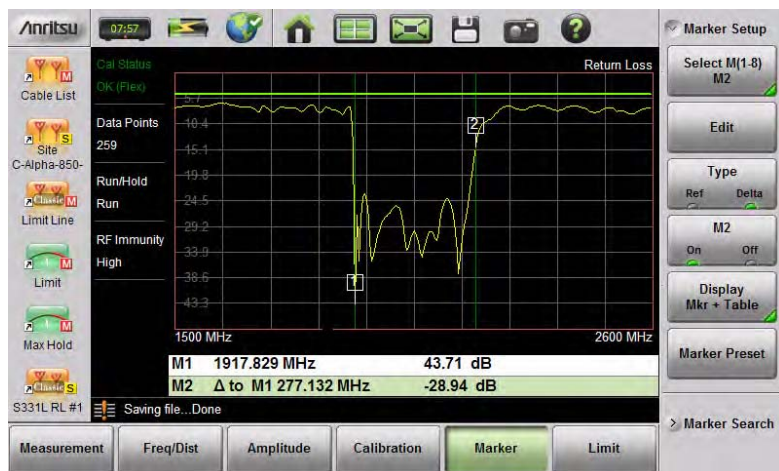

Figure 3-24. Delta Marker 2 and Marker Table
3. Markers 2 through 8 can be set as deltas to a reference marker. Use the **Type** key to set the marker type as **Reference** or **Delta** marker. Figure 3-24 on page 3-43 illustrates using a delta marker to estimate the passband of a filter.